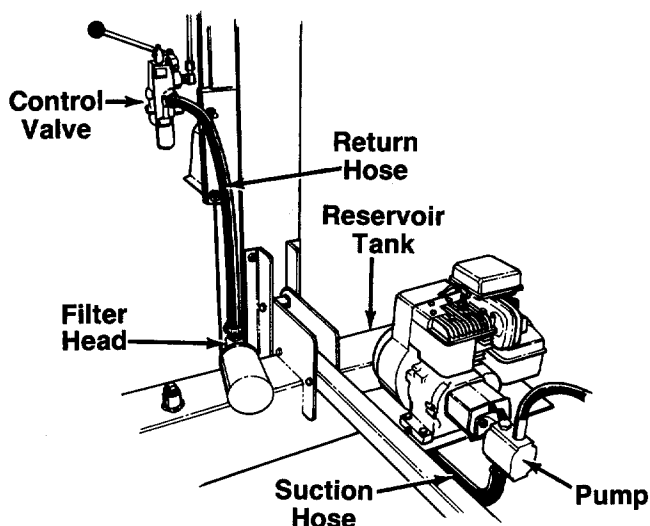

FIGURE 10.
- Attach the end of the hose to the fitting on the bottom of the pump. See figure 10. Place the hose clamp at the base of the fitting, and tighten securely.
- Attach the end of the hose to the fitting on top of the filter head. See figure 10. Place the hose clamp at the base of the fitting, and tighten securely.